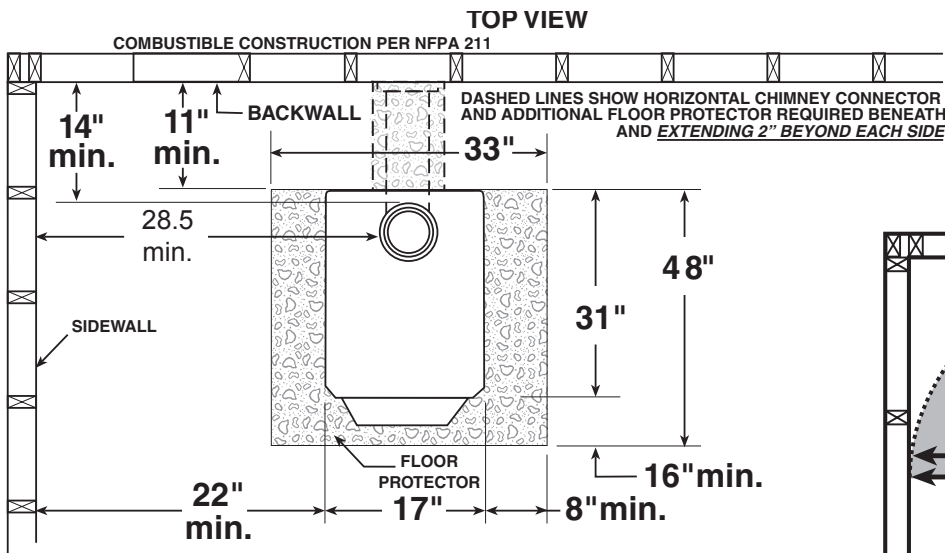

Fig. 5 – Top View Minimum Clearance Dimensions from Combustible Surfaces
3. After properly locating floor protector (fig 5) to accommodate minimum stove clearances, place stove in position on floor protector.
1. The stove must be placed on solid concrete, solid masonry, or when installed on a combustible floor, on a UL1618 Type 2 listed floor protector with minimum dimensions of 33" x 48", such as Hy-C or Imperial Model UL3648BK or equivalent. Floor protector must be 1/2" minimum thickness (K value =0.84, R value = 0.59, see page 22 for calculation formulas) non-combustible material or equivalent. The base must extend at least 16" beyond the front of the access door, 8" to the sides of fuel opening. It must extend under and 2 inches beyond either side of the stove pipe if it is elbowed towards a wall. (See figures 5 & 7 and consult local building codes and fire protection ordinances.)
3. After observing the clearances to combustible materials (figures 5–7), locate your floor protector accordingly (figure 5) and carefully place the stove in your selected location. Install stove pipe, elbows, and thimble as required, utilizing either a recently cleaned and inspected 6" masonry chimney or a 6" i.d. listed type HT chimney.
4. Use round 6"/152mm dia., minimum 24 MSG black or 26 MSG blue steel stove pipe to connect the stove to the chimney. **DO NOT USE GALVANIZED PIPE AS A CONNECTOR.** Secure pipe/elbow sections with a minimum of three (3) equally spaced sheet metal screws at each joint and at the stove collar to make the pipe rigid. **DO NOT CONNECT THIS STOVE TO ANY AIR DISTRIBUTION OR DUCT SYSTEM.**
(FIRE HAZARD) CARPETING AND OTHER COMBUSTIBLE MATERIAL SHALL NOT COVER THE FLOOR PROTECTOR. THESE MATERIALS MUST REMAIN OUTSIDE OF COMBUSTIBLE CLEARANCES, SEE FIG. 5 – 7..